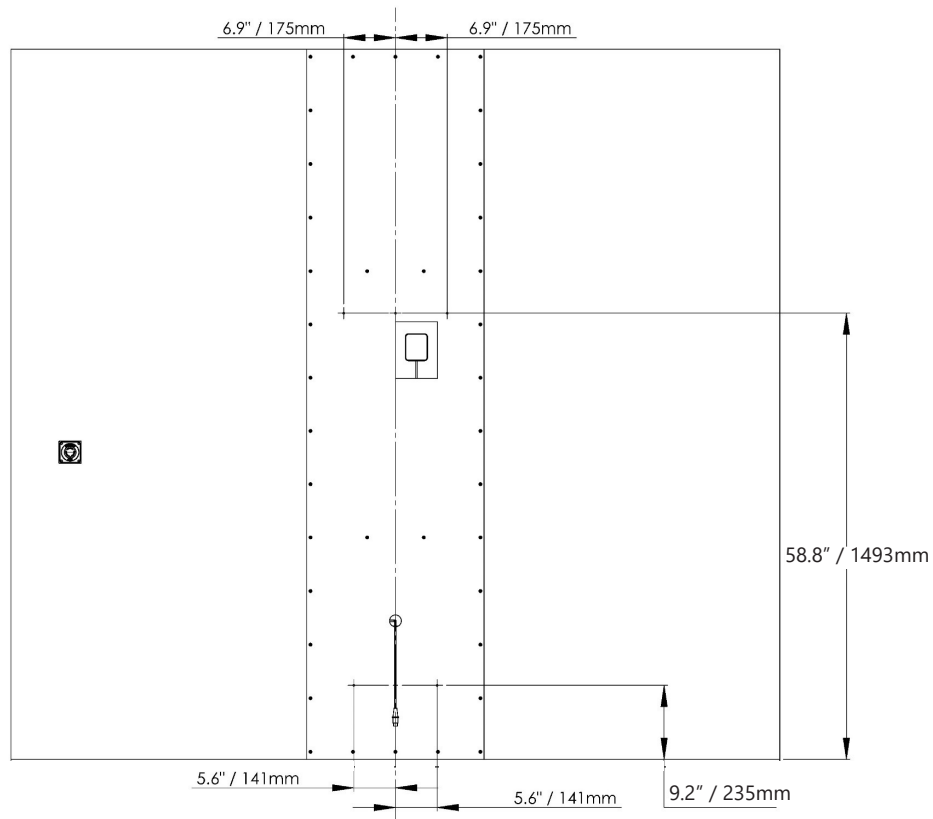

Fig 11.3 Fixing points of Invincible SBU
- The finished pre-installation should appear like Fig 11.3.